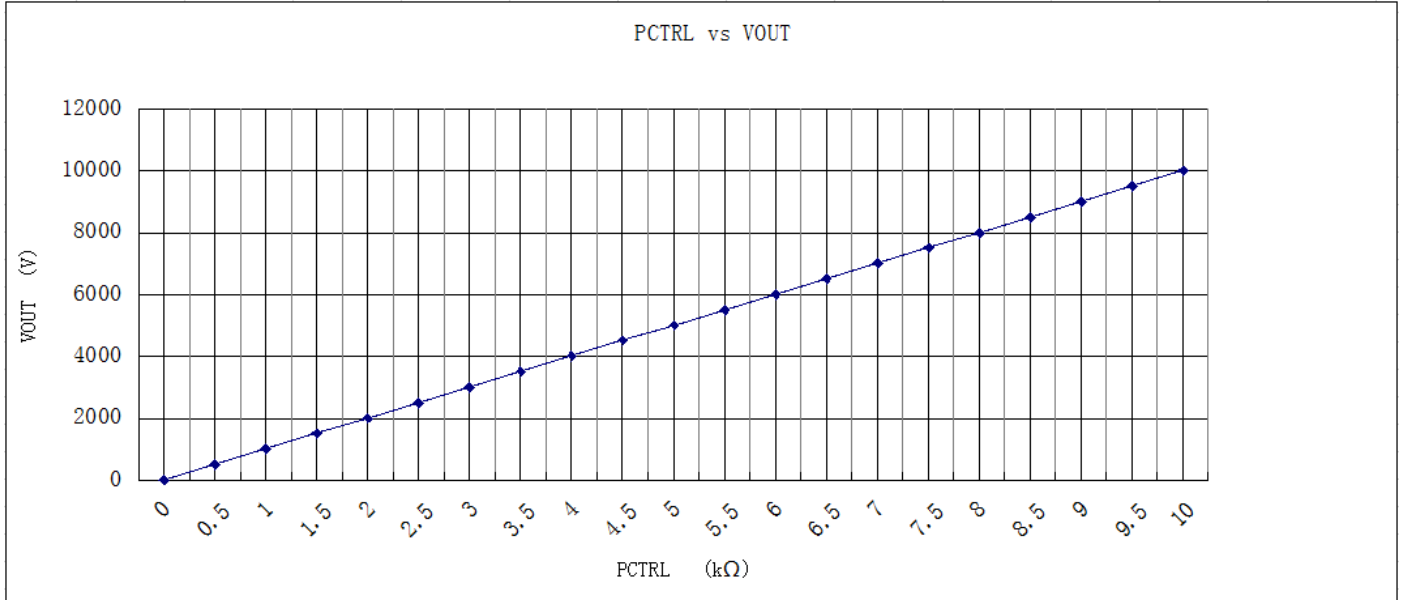

Figure 4. PCTRL vs. VOUT
5. HV adjustment: 10-turn potentiometer for adjusting output voltage. Rotate it clockwise to increase the output voltage, and the potentiometer resistance = the corresponding scale × 10Ω. For example, as Figure 4 shows, when the scale is 10, and the frame above the scale shows 1 (1kΩ), then the resistance = 10 × 10Ω + 1kΩ = 1.1kΩ, and the like.